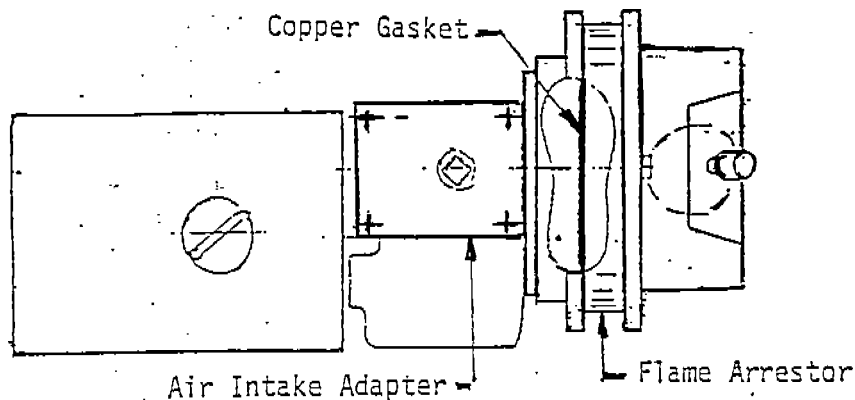

Figure 6. Flame Arrester Gasket
- (WEEKLY) 8. ( ) A copper gasket is installed between the intake flame arrester and the air intake adapter as shown in Figure 6.